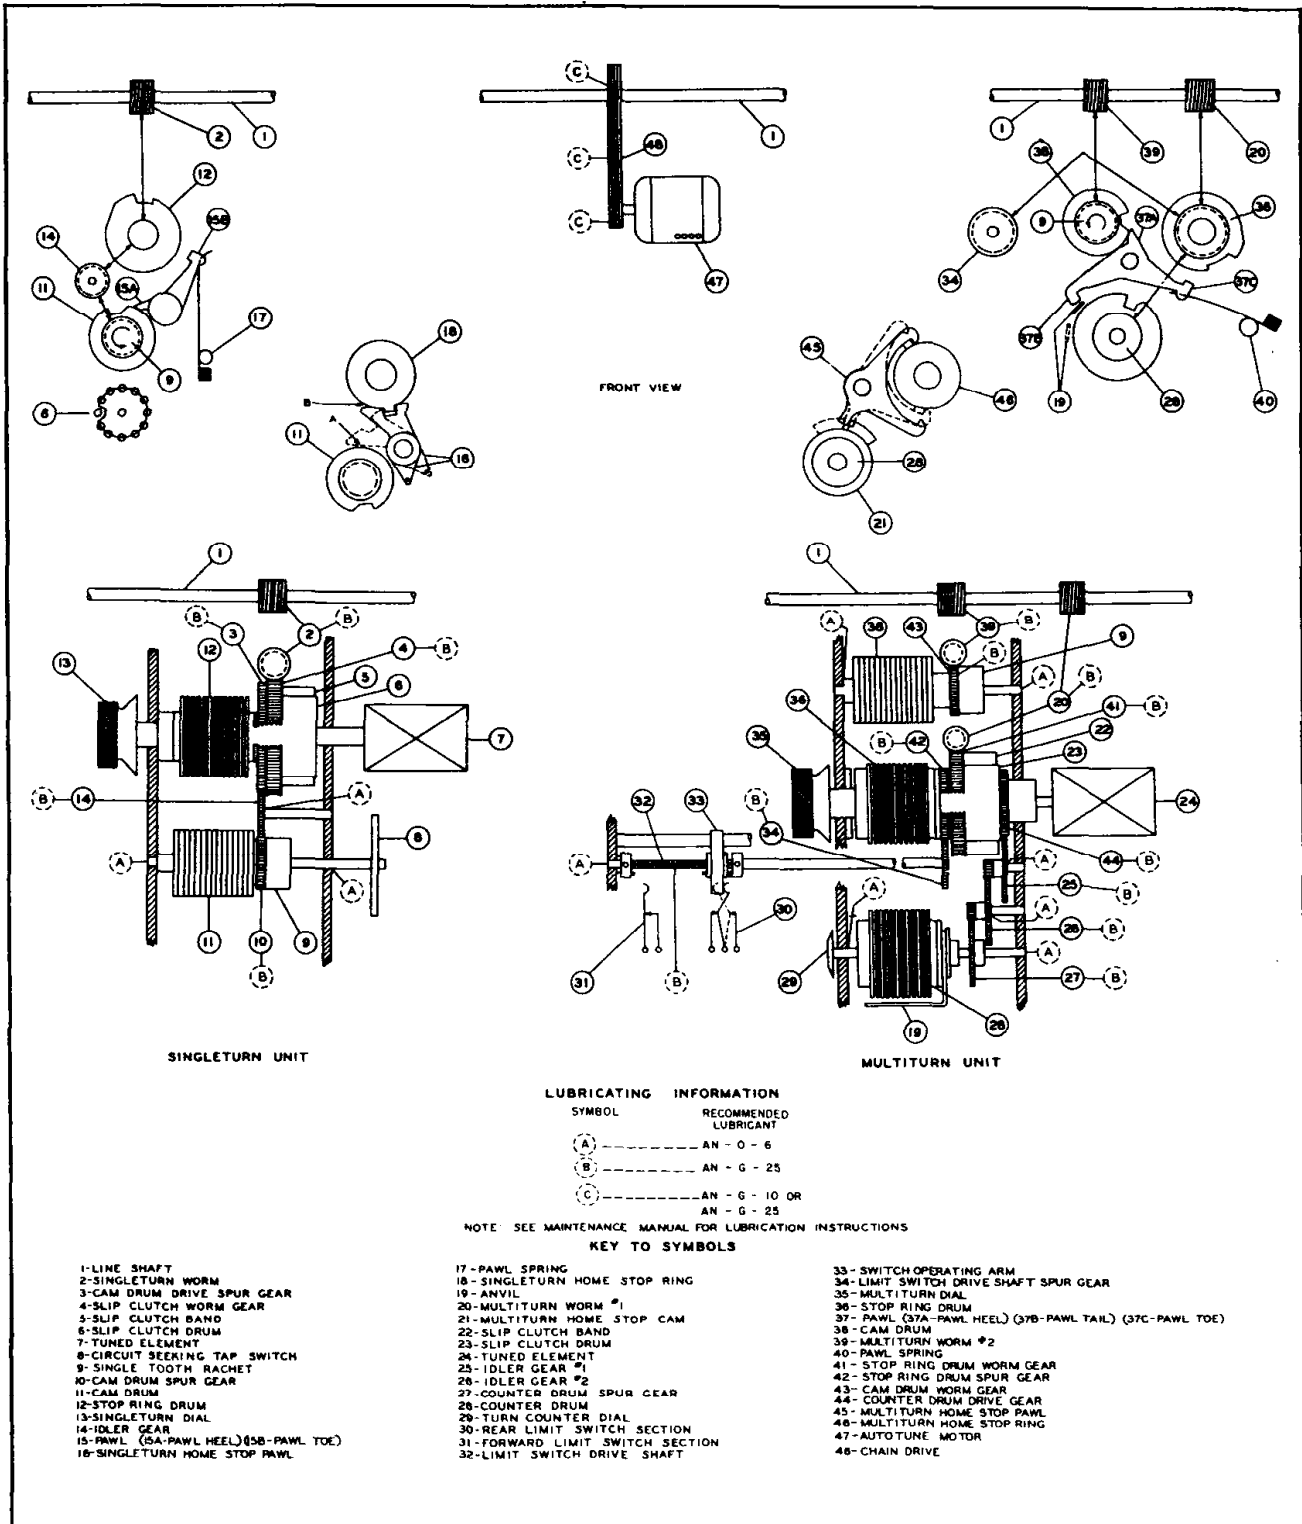

Figure 4-14. Autotune Mechanism — Mechanical Portion
(1) The positioning accuracy of the Autotune mechanism is of a very high order. Each setting is inherently independent of wear, backlash, alignment, supply voltage, etc. The accuracy of the settings is comparable to that of vernier manual controls. The parts are machined within close limits, and although operation is most precise, there are no delicate adjustments or fragile mechanisms. Permanently lubricated bearings are used in many places and the assembly is enclosed and protected from dust and corrosion.
(2) Some of the controls which are operated by the Autotune mechanism only require a maximum change in position of one revolution (360°) or less but the "Fine High Frequency Tuning Control B" may require as many as 20 revolutions to reach a particular setting. Thus, the Autotune system provides two basic types of mechanisms; one known as the "Singleturn Unit" and the other as the "Multiturn Unit." Singleturn Units are used to operate controls that make one turn or less to reach final setting. The Multiturn Unit is used to operate control B only, since that control may require up to 20 revolutions to reach final setting.
(3) IMPORTANT PARTS OF THE AUTOTUNE SYSTEM.—The names, descriptions, and functions performed by important parts of the Autotune mechanism are given in the following tabulation. Numbers that appear in parenthesis after the part names refer to the parts in figure 4-14.
(1) The drawings of the electrical and mechanical portions of the Autotune, figure 4-20 and figure 4-14, should be referred to in connection with the following description of the operational sequence. The drawings show the Autotune mechanism in the rest position at the completion of the operation cycle.
(2) The following sequence of operations, listed in order, represents the complete Autotune cycle: